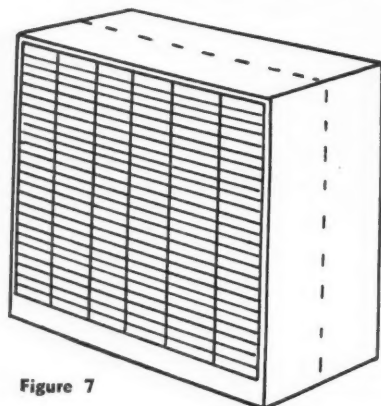

Figure 7
1. Special steel units for the storage of steel trays approximately 12 by 18. The unit is open on two sides and stands about eight feet high. Capacity about 720 trays. Twelve by 18 galleys can also be used. See Figure 7.